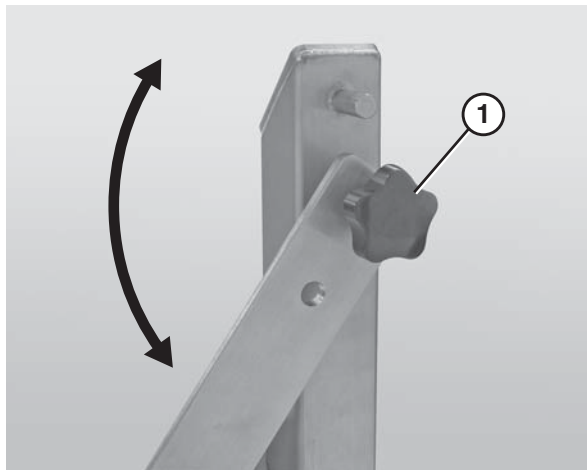

Figure 12
4. Loosen the inside knob (Figure 12, item 1) on the quick release side of the stand.